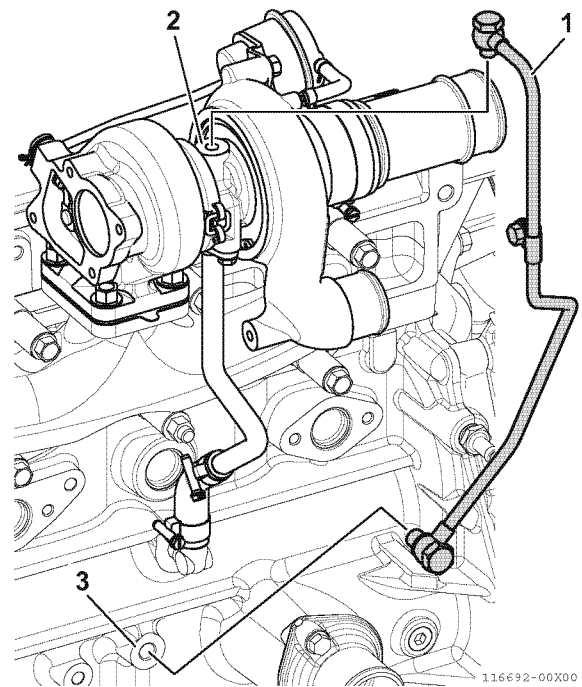

Fig.24-24
6. Install the lubricating oil supply pipe (1, Fig.24-24) to the turbocharger (2, Fig.24-24) and cylinder block (3, Fig.24-24). Replace the packing of the lubricating oil supply pipe joint with new one.